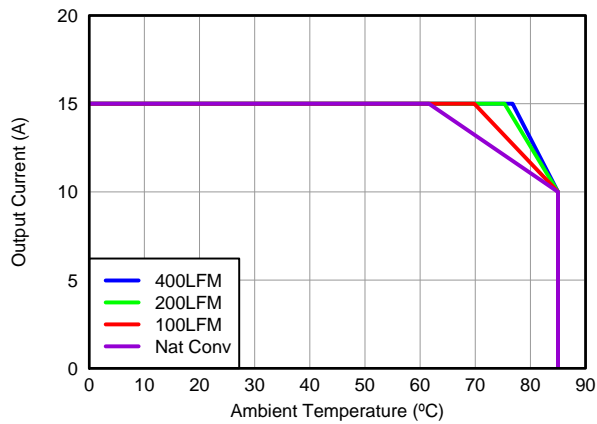
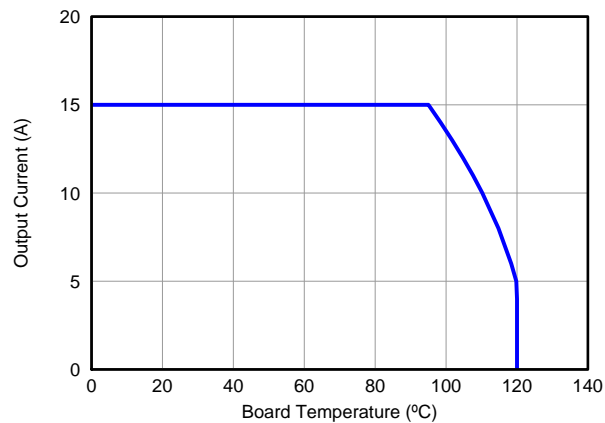

Figure 3. Safe Operating Area – PCB Vertical Mount(1)
Figure 5. Typical Safe Operating Area(1)
The SOA curves in the CSD87331Q3D data sheet provides guidance on the temperature boundaries within an operating system by incorporating the thermal resistance and system power loss. Figure 3 to Figure 5 outline the temperature and airflow conditions required for a given load current. The area under the curve dictates the safe operating area. All the curves are based on measurements made on a PCB design with dimensions of 4" (W) × 3.5" (L) × 0.062" (T) and 6 copper layers of 1 oz. copper thickness.